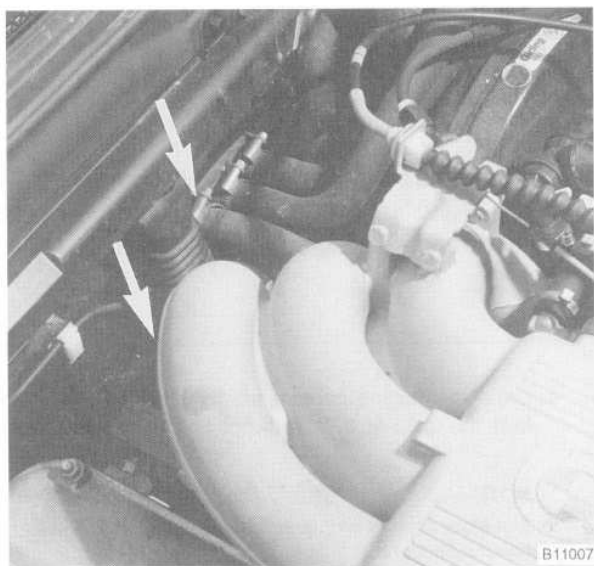

Fig. 1. Heater hoses at bulkhead and at rear of cylinder head (arrows).
8. Disconnect the heater hose from the rear bulkhead and from the rear of the cylinder head as shown in Fig. 1.